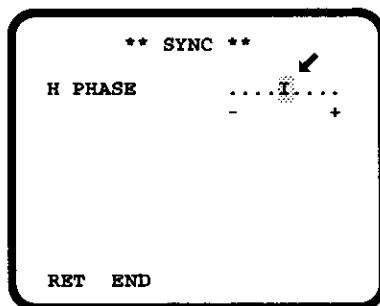

Fig.35.
5. The VS gen-lock mode has a second level menu of horizontal phase (H PHASE) as shown in Fig.35.
- After confirming that the cursor is on the "EXT (VS)" position, press the Page Button (PAGE) and synchronization phase adjustment menu is displayed as shown in Fig.35.